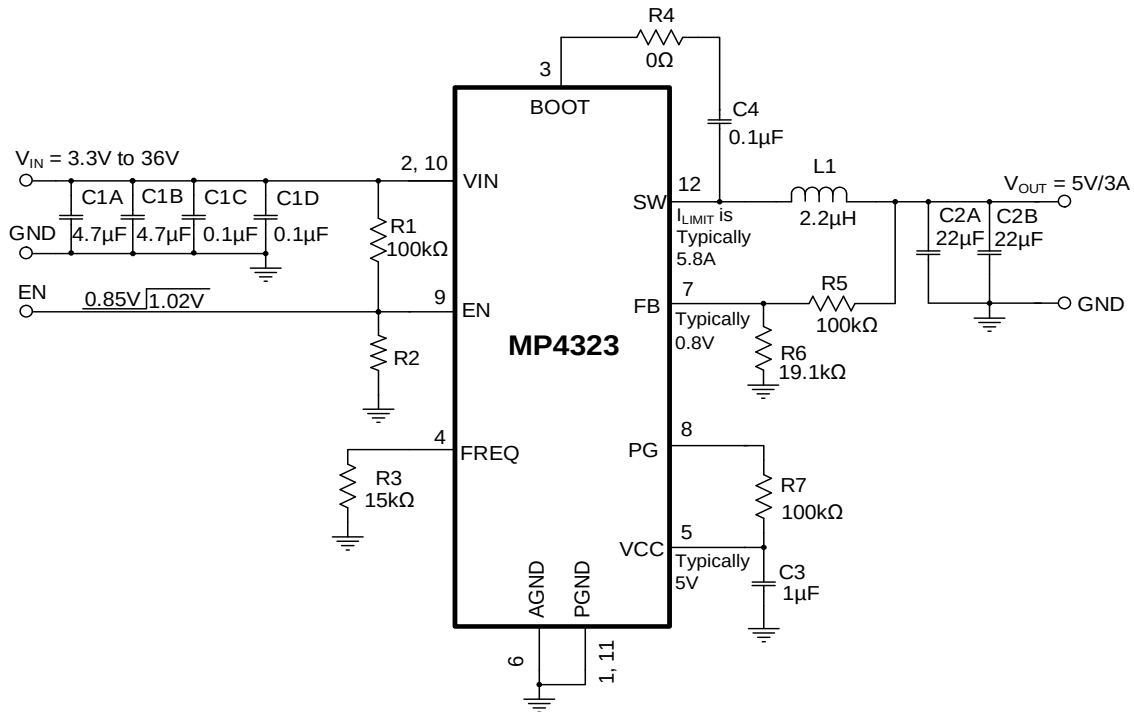

Figure 11: Typical Application Circuit with Bootstrap Resistor (R4) ($V_{OUT} = 5V$, $f_{SW} = 2.2MHz$)
14) The recommended PCB layout is based on the typical application circuit in Figure 11 on page 36.